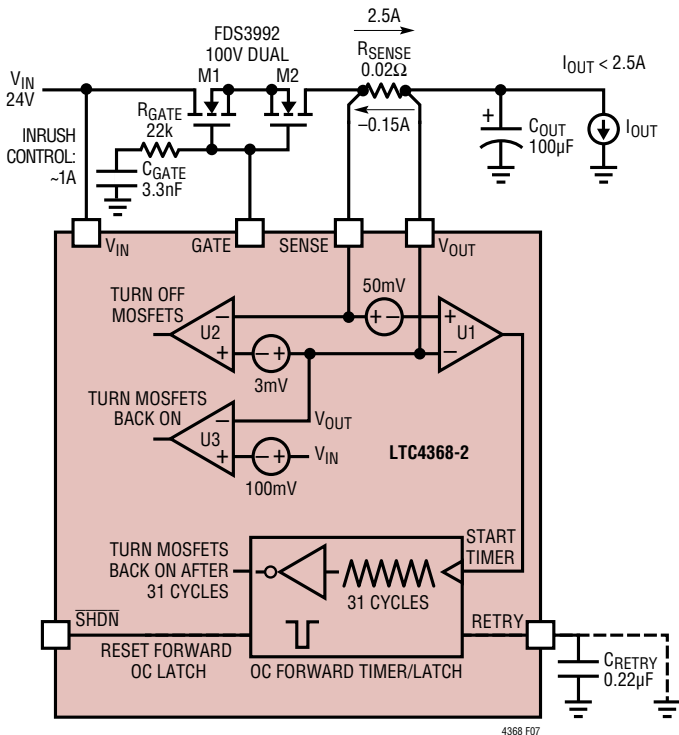

Figure 7. Overcurrent Comparators Monitor 2.5A/–0.15A Current Faults
The 3.3nF C_{GATE} capacitor in the application circuit of Figure 7 limits the inrush current to just over 1A. R_{GATE} prevents C_{GATE} from slowing down the reverse polarity protection circuits. It also stabilizes the fast pull-down circuits and prevents chatter during fault conditions. Set R_{GATE} to 22k for most applications.
Forward overcurrent protection prevents large currents from flowing from V_{IN} to V_{OUT} . This threshold current is determined by the external sense resistor (R_{SENSE}) and an internal comparator (Figure 7, U1) with a 50mV threshold:
For the example of Figure 7, if 2.5A flows to the output across the 20m Ω sense resistor, the external MOSFETs (M1, M2) are immediately (8 μ s) turned off. This disconnects the load from the input supply.
For the example of Figure 7, the 3.3nF GATE capacitor and the 100 μ F output capacitor limit the inrush current (I_{INRUSH}) to approximately 1A. This means that the output current (I_{OUT}) must be less than 1.5A during turn on in order to avoid a forward overcurrent fault during turn on. Once V_{OUT} has ramped to its final value, the output current is limited to 2.5A.
1. Automatically restart by placing an external capacitor on the RETRY pin. An internal cool-down timer will charge/discharge this capacitor 31 times with a 5.5ms/nF total delay. At the end of this delay, the external MOSFETs are turned back on, thus reconnecting the load to the input supply. The 0.22 μ F capacitor (C_{RETRY}) in the application of Figure 7 yields a 1200ms cool-down timer delay. Note that the adjustable cool-down period provides the user with a means of keeping the external
Reverse overcurrent protection prevents large currents from flowing from V_{OUT} to V_{IN} . There are two options for reverse overcurrent protection thresholds. The LTC4368-1 (-50mV) bidirectional circuit breaker allows load current to flow in either direction: from V_{IN} to V_{OUT} or from V_{OUT} to V_{IN} . The LTC4368-2 provides diode-like behavior by making the reverse overcurrent threshold (-3mV) significantly smaller than the forward overcurrent threshold ($+50\text{mV}$). The reverse overcurrent fault threshold is determined by the external sense resistor (R_{SENSE}) and an internal comparator (Figure 7, U2). For the LTC4368-2 application of Figure 7:
To turn the MOSFETs back on, an internal comparator (Figure 7, U3) detects when V_{OUT} drops 100mV below V_{IN} :